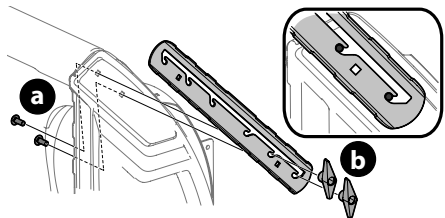

Figure 42
- Loosen the two carriage bolts (a) and wing knob (b) that secure each drift cutter to the sides of auger housing (Figure 42).